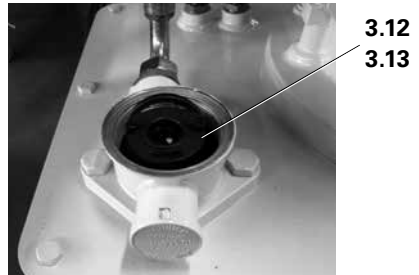

Fig. 24: Removing the filter element
2. Pull out the lower part of the housing (3.13) including the filter element (3.12) from the head piece. (Fig. 24)